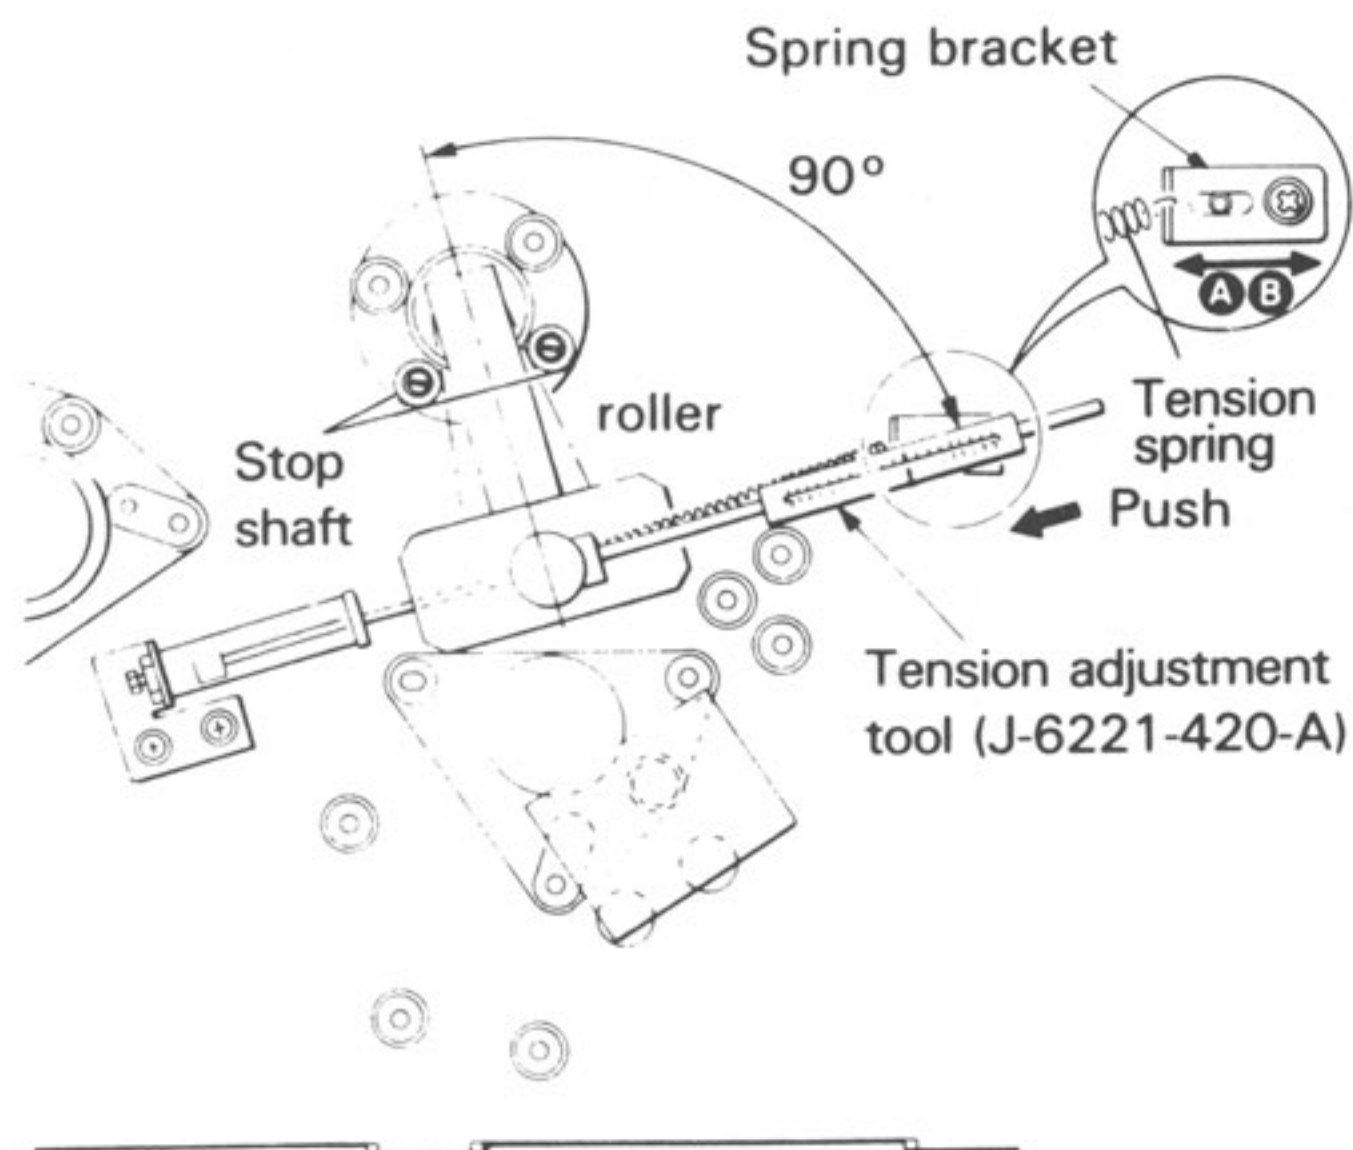

Figure 7-5. Supply Tension Arm Adjustment
- STEP 2.** Place the tension adjustment tool against the center of the supply tension arm as shown in Figure 7-5 and push the tool in the direction of the arrow. Read the scale when the arm is at the center of the two stop shafts.